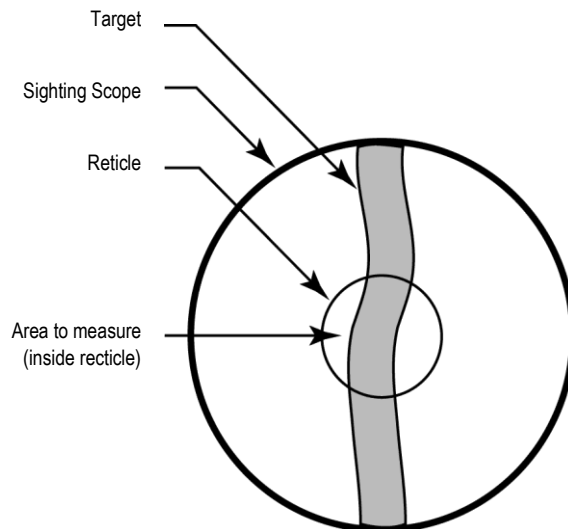

Figure 12: Sensor Eyepiece and Reticle
2. Look through the eyepiece and position the sensor so the target is centered as much as possible in the middle of the reticle, see Figure 12. (Note that the target appears upside down.)